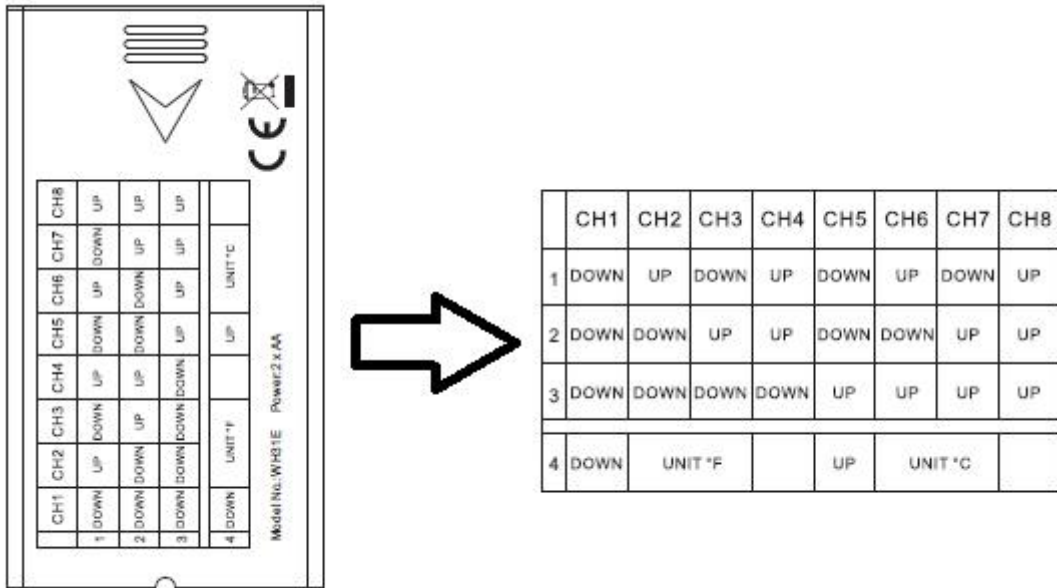

Figure 3
3. **Channel Number:** The WS-2902D supports up to eight transmitters. To set each channel number (the default is Channel 1), change Dip Switches 1, 2 and 3, as referenced in Figure 3.
4. **Temperature Units of Measurement:** To change the units of measurement on the transmitter display (°F vs. °C), change Dip Switch 4, as referenced in Figure 3.